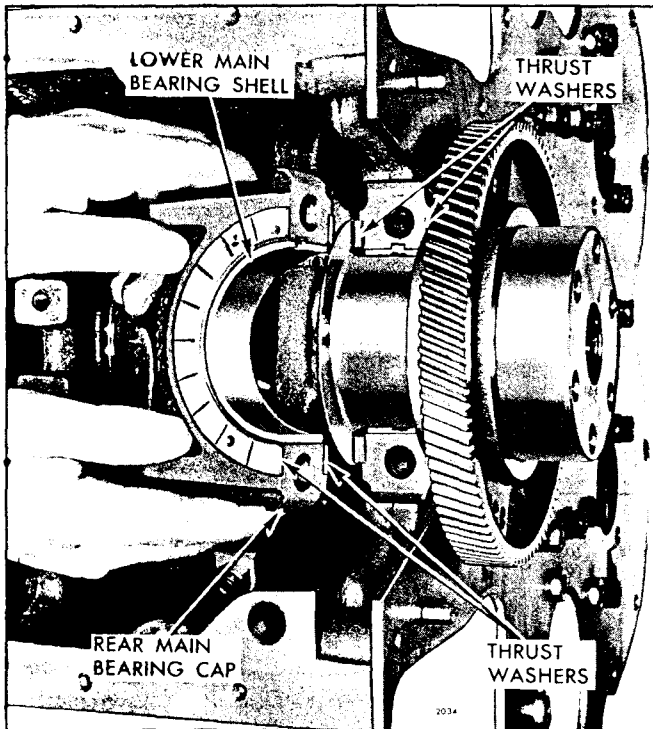

Fig. 9 - Crankshaft Thrust Washer Mounting
2. Assemble the crankshaft thrust washers before installing the main bearing cap. Clean both halves of the thrust washer carefully and remove any burrs from the washer seats -- the slightest particle of dirt may decrease the clearance between the washers and the crankshaft beyond limits. Slide the upper halves of the thrust washers into place in their grooves (Fig. 9), then assemble the lower halves over the dowel pins in the bearing cap.